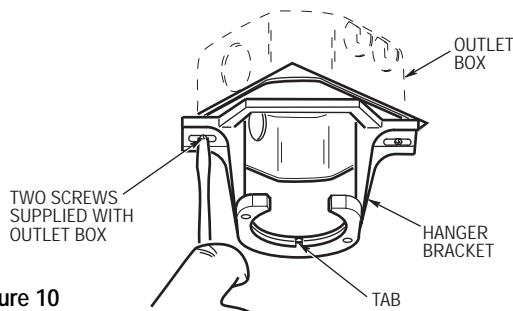
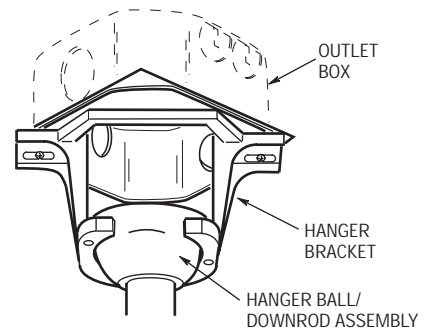

Figure 10
Figure 11
- Securely attach the hanger bracket to the outlet box using the two screws supplied with the outlet box. (Figure 10.)
- Carefully lift the fan and seat the hanger ball/downrod assembly on the hanger bracket that was just attached to the outlet box (Figure 11). Be sure the tab on the hanger bracket is seated in the groove on the hanger ball (Figure 10).